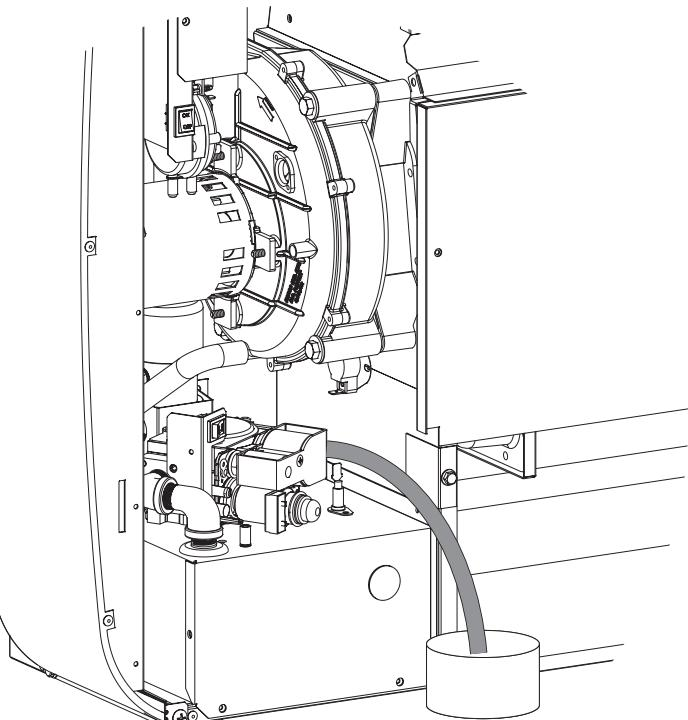

Figure 2
4. If wall furnace has been installed and operated, the condensate trap must be drained. Disconnect the clear hose from the front inducer tap and use it to drain the condensate from the tap into a cup. Replace the line when done. **See Figure 2.**